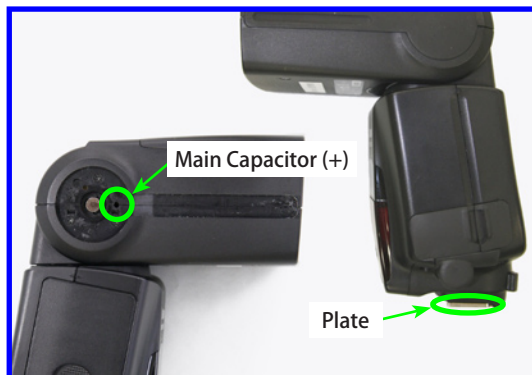

Fig. 002 Discharging Points
3. There is a plus terminal of the main capacitor shown as a red dot. Use a discharging resistor of about 500 ohm and 10w to discharge by short-circuiting this terminal and a plate of the mounting foot. (Fig. 002)